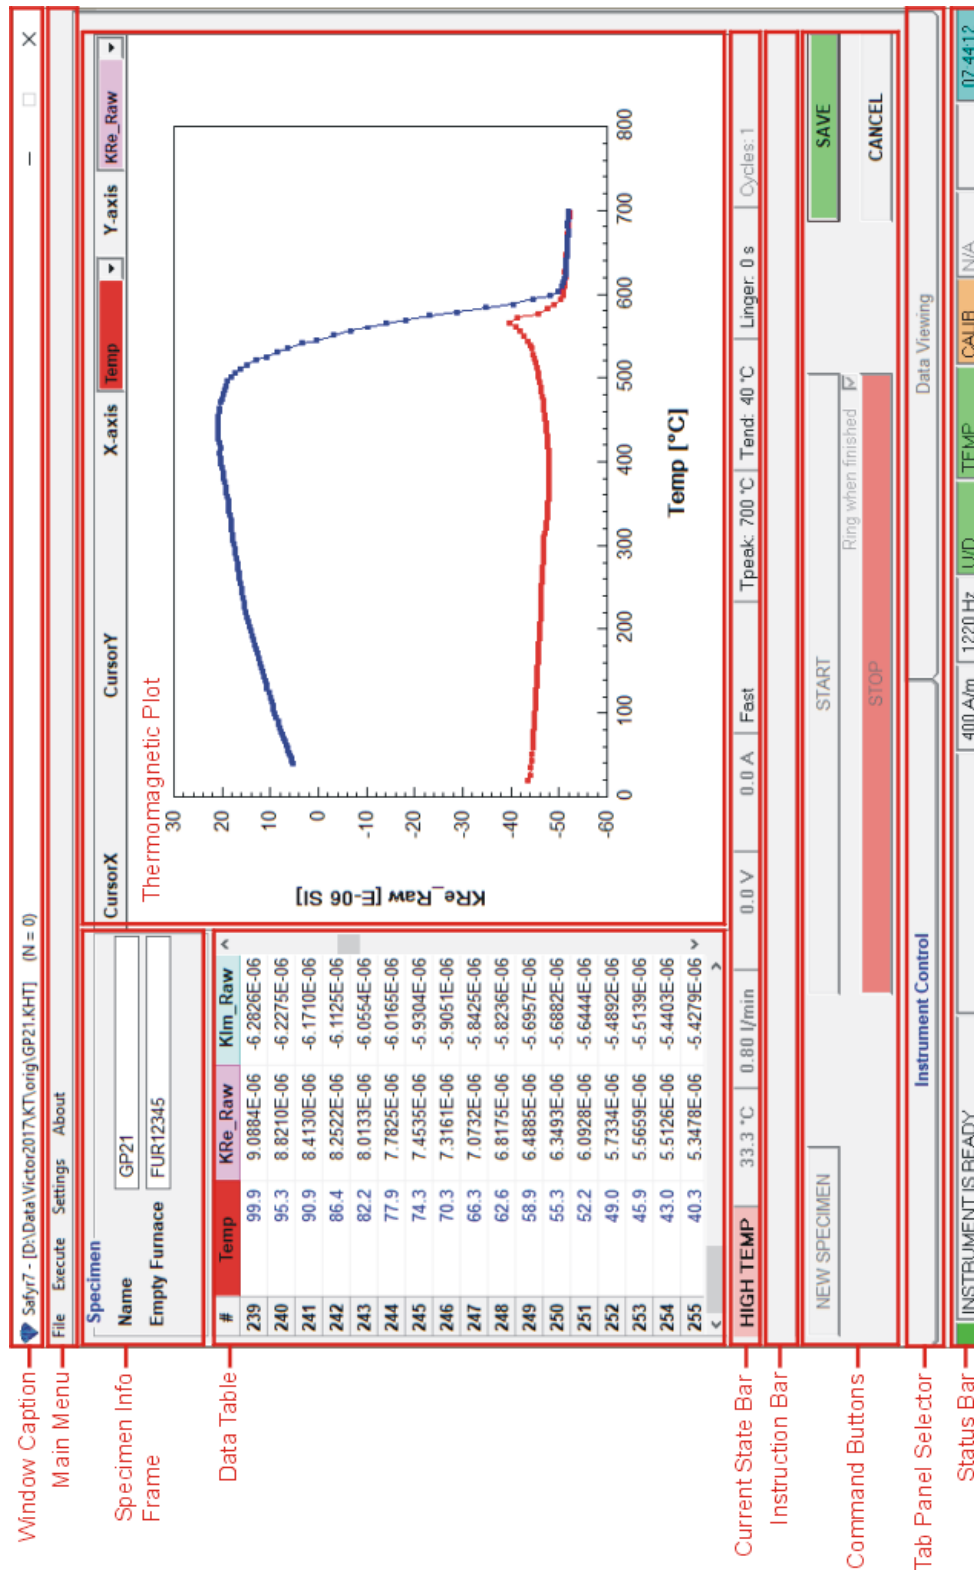

Figure 28: An example of the Safyr7 Main Window controlling the High Temperature Mode.
The High Temperature Mode can be set in the **Instrument Settings** window (Settings > Instrument Settings or **F12**), see Section 3.1.1.6, Page 17. The **Safyr7 Main Window** for the High Temperature Mode is shown in Figure 28.
8. The average temperature (from the pre- and post measurement temperature readings) and measured susceptibility values are appended to the **Data Table** and the **Thermomagnetic Plot** is continuously re-drawn (Figure 28).